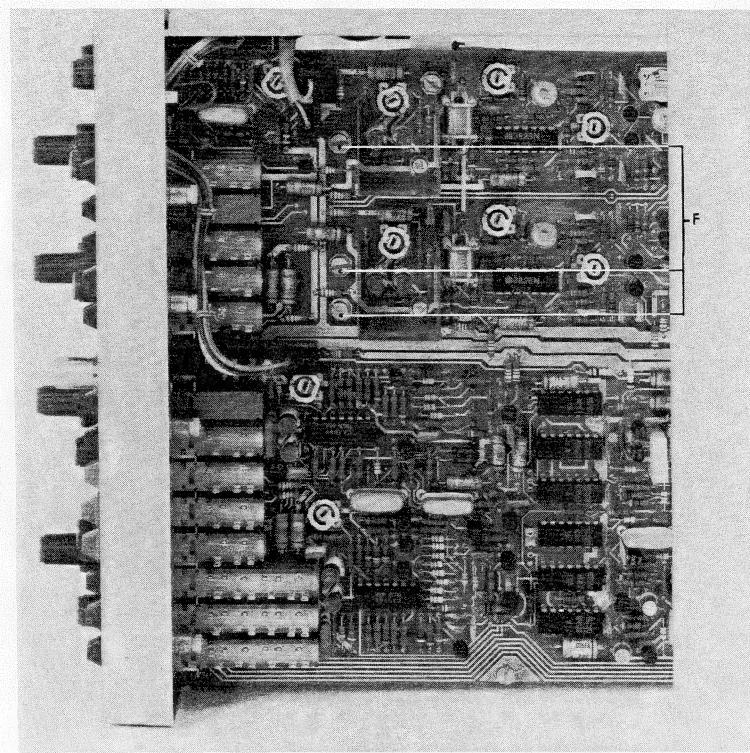

Fig. 3.8 Removing the front assembly (screws F)
- Remove the three screws F (Fig. 3.8)